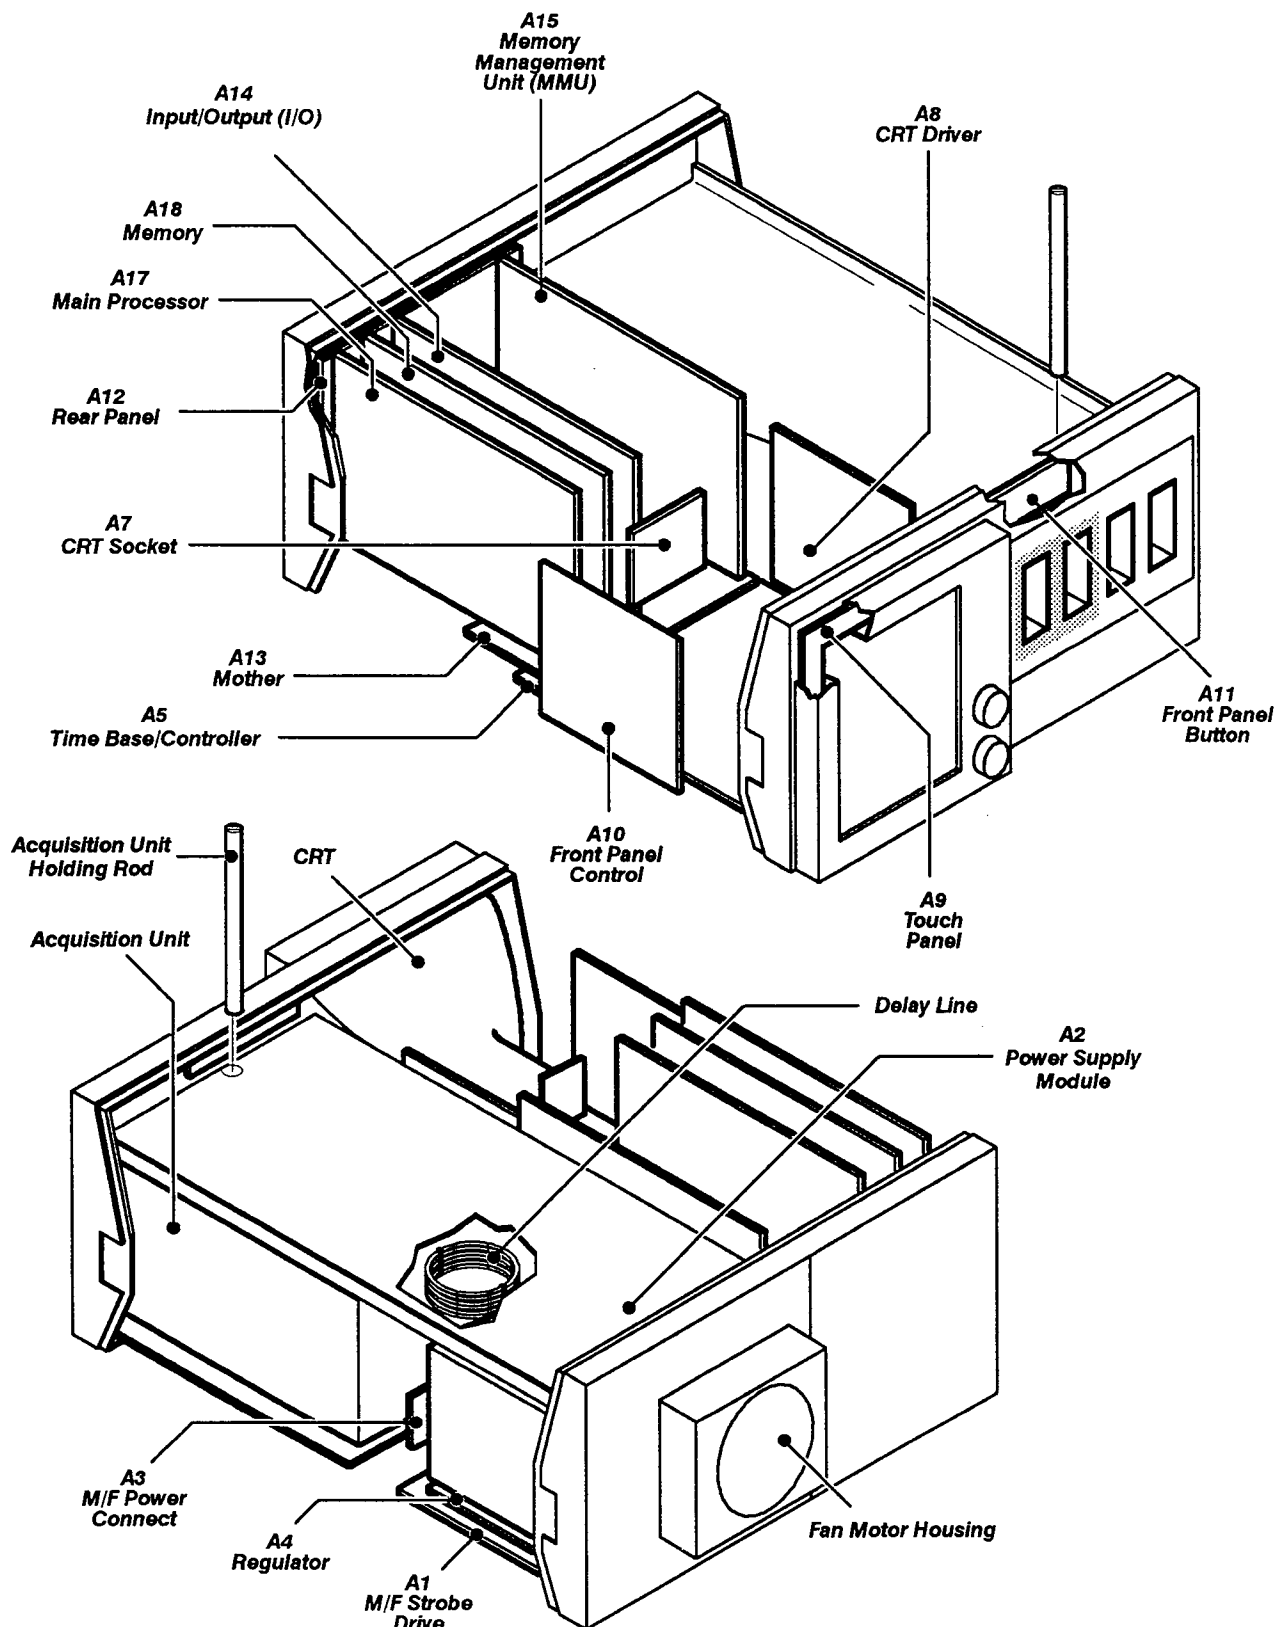

Figure 1: Mainframe Circuit Board Locations
Position the instrument with the bottom facing the installer. The Time Base/Controller circuit board is located towards the front of the instrument. Refer to Figure 1 for circuit board locations.
- Step 18:** Remove the long holding rod located on the top of the instrument. The holding rod secures the Acquisition Unit into the instrument. Refer to Figure 1, for holding rod location.
- Step 25:** Remove the two (2) Torx drive screws that secures each black retaining brace located on the top of the Acquisition Unit. Then remove the retaining braces from the Acquisition Unit.